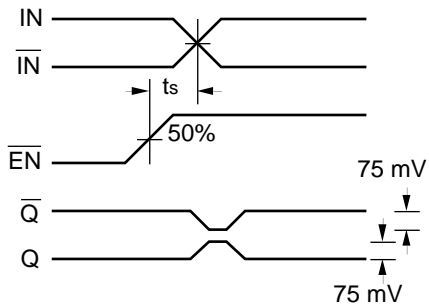

Figure 1. Set-up Time
- The set-up time is the minimum time that \overline{EN} must be asserted prior to the next transition of IN/ \overline{IN} to prevent an output response greater than $\pm 75mV$ to that IN/ \overline{IN} transition (see Figure 1).